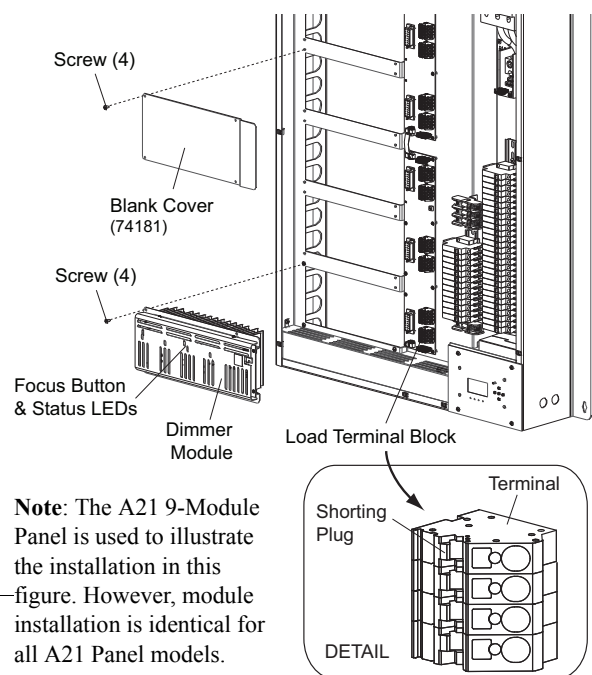

Figure 5: Installing Modules and Blank Covers
- Step 4. Firmly grasp the exposed red tab of the shorting plug (**Figure 5**).
- Step 5. If present, remove blank cover (74181) from location where module is to be installed. See **Figure 5**.